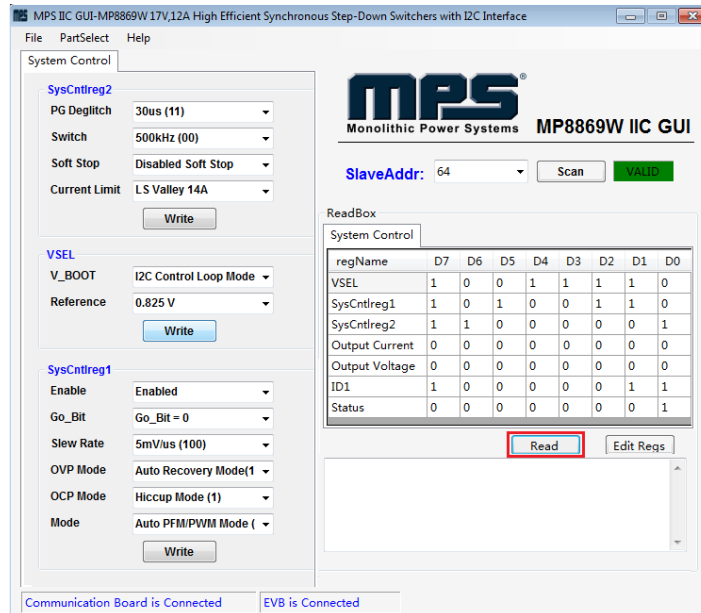

Figure 9: Values from I2C Shown in Table
3. Click the “Part Select” button to select the MP8869W (see Figure 7). The default GUI window is for the MP8861. The Register Control menu will appear on the left side. I2C register values will be read and displayed on the right side after clicking the “Read” button (see Figure 9).